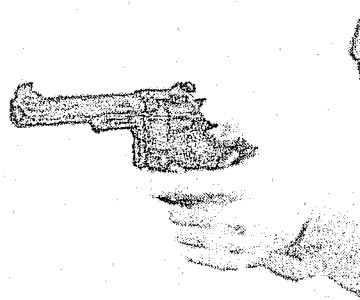

Figure 6-20
- b. The thumb can be placed over the strong hand thumb. (See Figure 6-20)